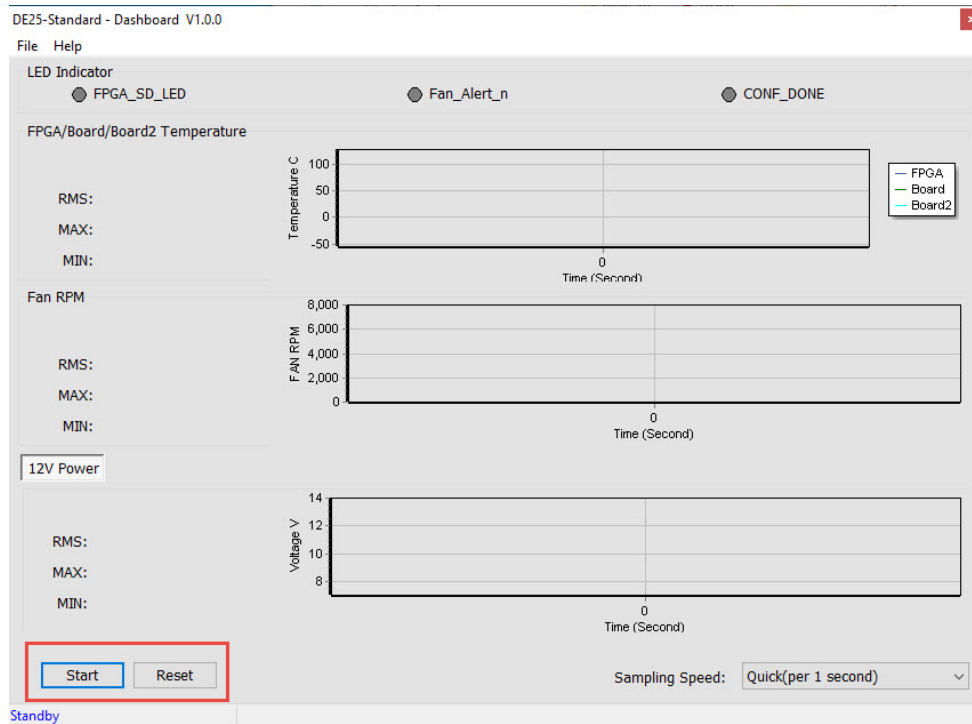

Figure 4-7 Start and Reset button
- **Start/Stop:** As shown in Figure 4-7, there is a Start button at the bottom-left of the GUI window. Click it to run the program (Start will change to Stop), it will show the DE25-Standard status. Users can press Stop button to stop the status data transmission and display.